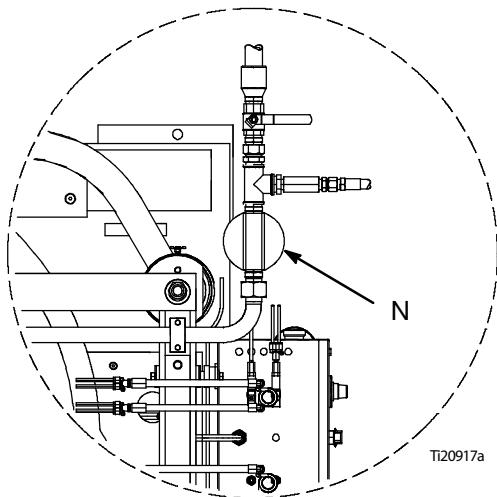

FIG. 22
- The Main Air Filter (N) between the air supply source and both air motors. See FIG. 22.